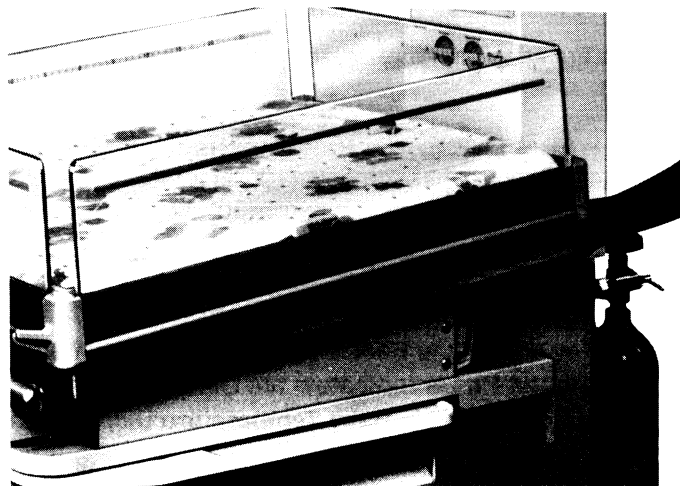

FIGURE 2.2 BASSINET TILT CONTROL
1. **CHECK THE MATTRESS TILT CONTROL** (Figure 2.2) by pulling up on the lever, located at the bottom rear of the Bassinet while supporting the rear lower edge of the Bassinet with the palm. Place the Bassinet in the 5-degree and then the 10-degree tilt position. Return the Bassinet to the level position.